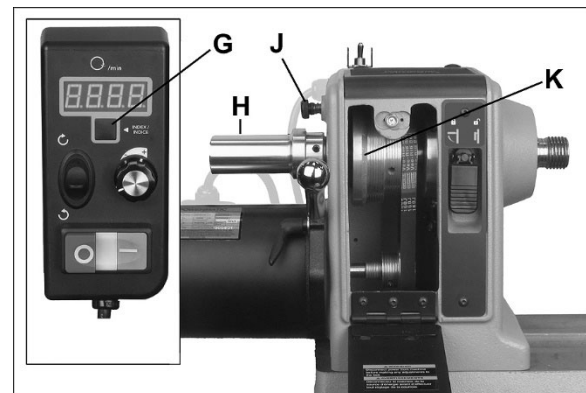

Figure 8-4: indexer
a spindle blank with a router, while the spindle blank is secured between lathe centers. Numbers 1 through 24 are inscribed on top sheave (K, Figure 8-4) for reference. When lathe is powered, however, the LED display can be used for rapid locating of index positions, as follows.
2. Push index button (G, Figure 8-4). The LED display will change from RPM setting to index setting.
3. Use handwheel (H) to rotate workpiece to desired position.
4. Push in index pin (J, Figure 8-4) and rotate workpiece slightly until pin engages hole. Then screw index pin (J) further into headstock to lock spindle.
6. Push index button (G) to set engaged index position at zero.
7. Unscrew index pin (J) to release spindle, then rotate workpiece until next desired hole shows on readout.